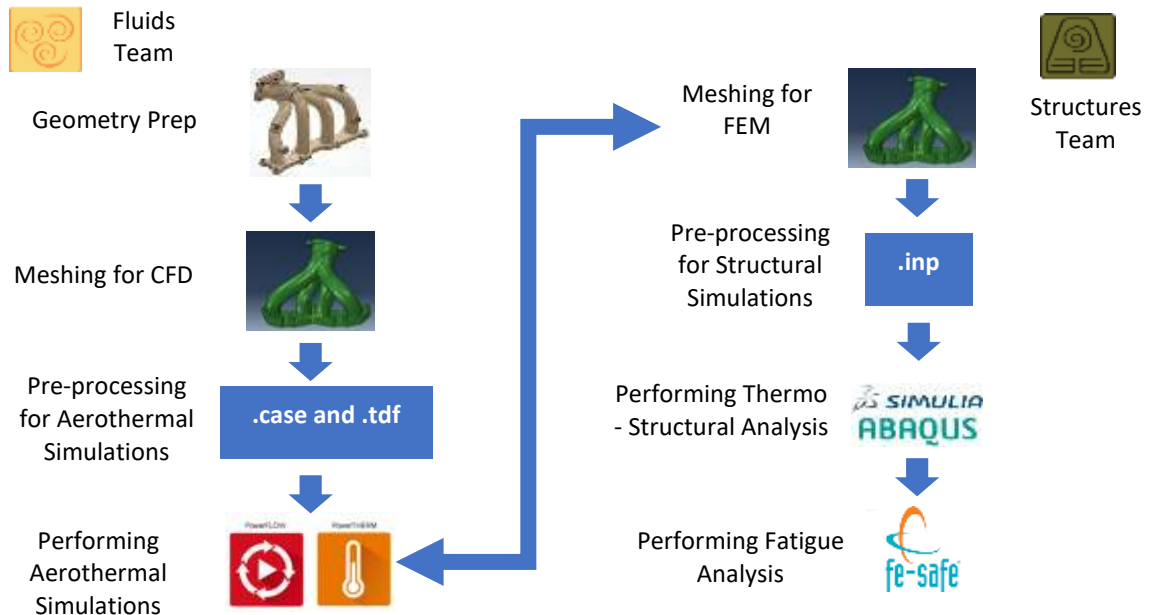

Figure 1: Conventional Workflow
Figure 1 highlights the conventional workflow for a typical company, with a fluids (CFD) and a structures (FE) team. The CFD user prepares the geometry, makes the mesh, creates the simulation model and performs aero-thermal simulation. Then exports the necessary boundary conditions, which the FE user needs to import into the structural simulation model, which took similar effort to create. However, it is easy to note the following inefficiencies in the conventional process: